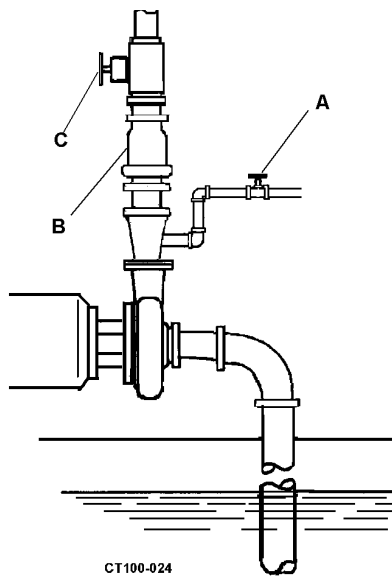

Figure 22 - Pump Above Supply
1. Open the discharge valve (Figure 22, item C).
**NOTE:** Use a check valve system (Figure 22, item B) to keep the supply line and pump casing flooded with liquid; otherwise the pump must be primed before each operation.